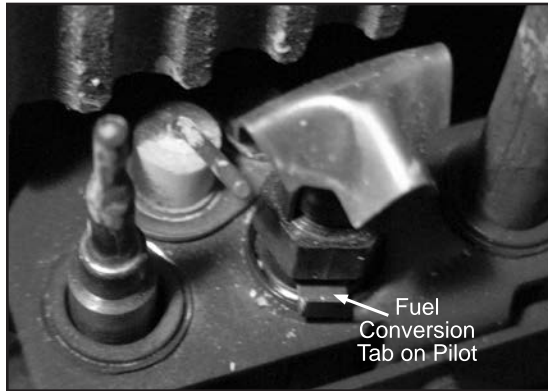

Figure 30: Fuel Conversion Tab on Pilot.
- b) Push the slider, with your finger or flat head screwdriver, to the left if it is to be set for natural gas or to the right for propane, red on the slider will be visible (see Figure 30).
8. Place a bead of high temperature silicone on the intake collar of the vent terminal (refer to Figure 30). Slide the Ø2" (51mm) flex intake liner over the collar, secure the flex liner with three (3) sheet metal screws evenly spaced.